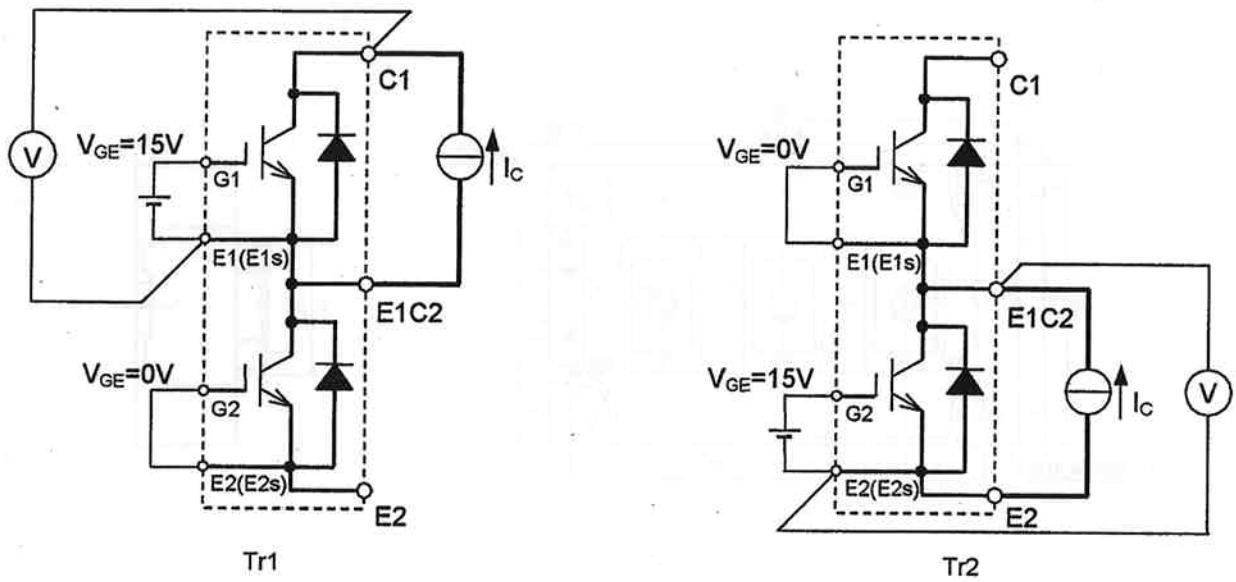
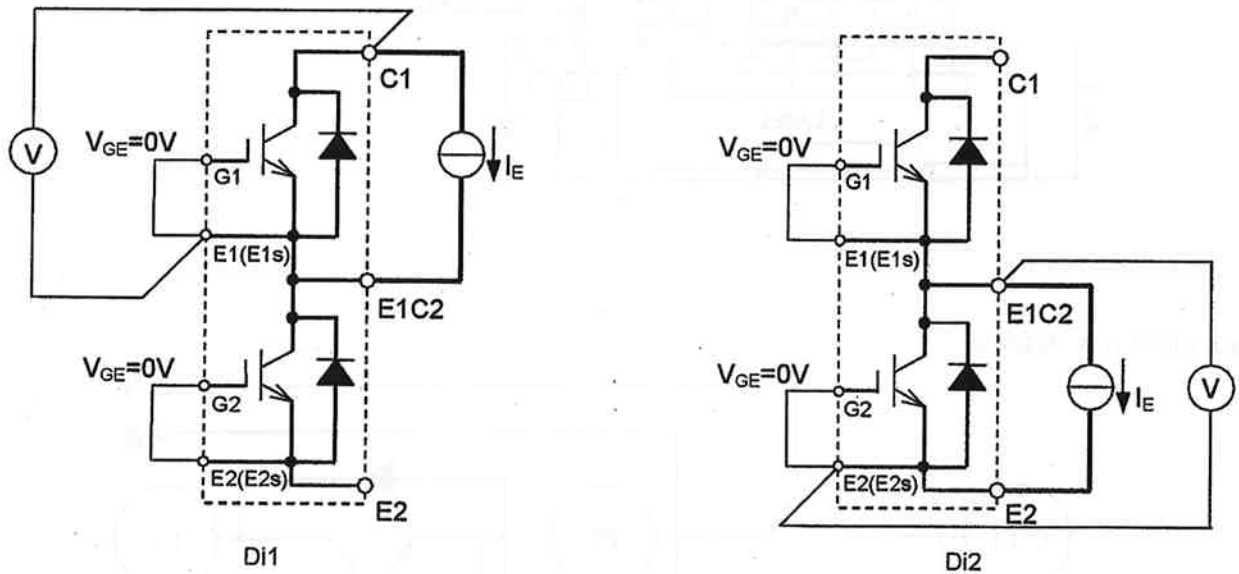

Fig.4 $V_{CE(sat)}$ test circuit
Fig.5 V_{EC} test circuit
*6: Pulse width and repetition rate should be such as to cause negligible temperature rise. (Refer to the Fig.4 and Fig.5)